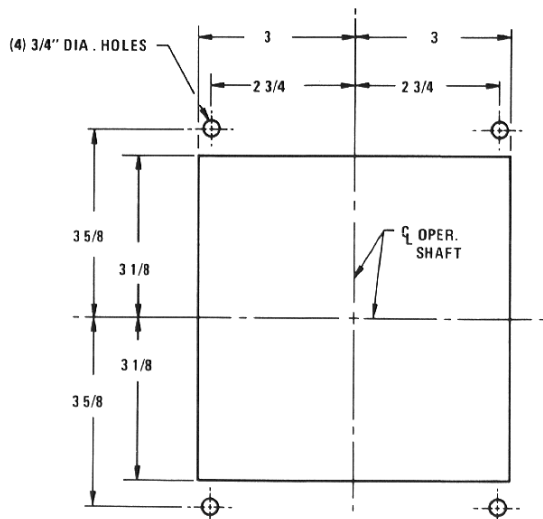

Fig. 8
- b. If it has not already been done, cut opening and drill or punch four 3/4" diameter holes in right side of enclosure per pattern shown in Fig. 8. (The same information appears on direct drive handle Dwg. 422-446.)